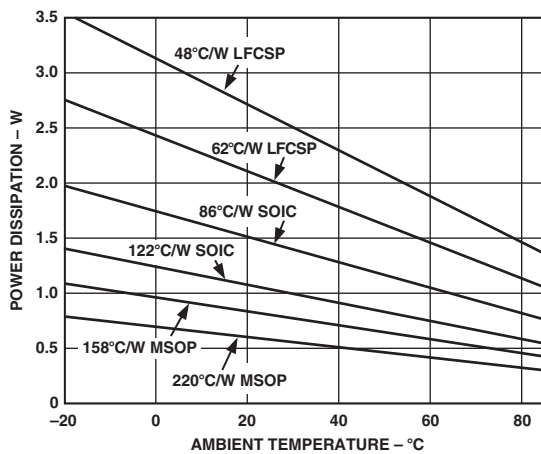

Figure 5. Power Derating Curve
The maximum power dissipation versus ambient temperature for each package is shown in Figure 5.
2. The thermal pad of the LFCSP package provides a low thermal impedance path (approximately 20°C/W) to the PCB. Therefore the PCB must be properly designed to effectively conduct the heat away from the package. This is achieved by adding thermal vias to the PCB, which provide a thermal path to the inner or bottom layers. See Figure 5 for the recommended via pattern. Note that the via diameter is small to prevent the solder from flowing through the via and leaving voids in the thermal pad solder joint.